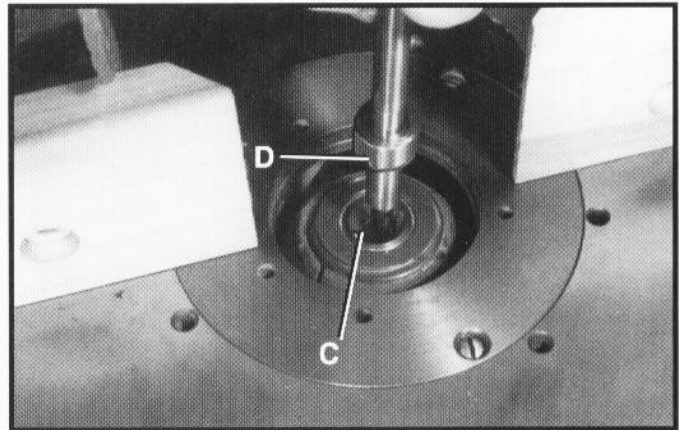

Fig. 13
2. Insert tie rod and spindle into the spindle cartridge making sure the pin (C) Fig. 13, in the spindle cartridge, is engaged with notch (D), in the spindle.